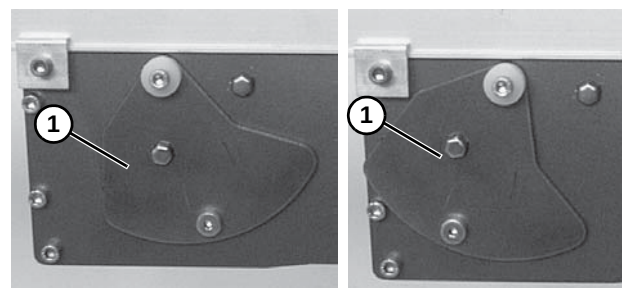

Figure 37
For a new belt, the tension plate (**Figure 37, item 1**) will be in position indicated below left. When the tension plate extends to position indicated below right, the conveyor belt must be replaced.